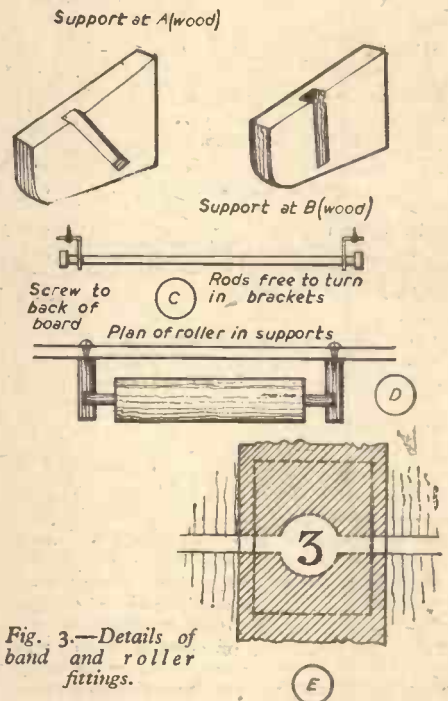

Fig. 3.—Details of band and roller fittings.
at the position shown in Fig. 3 the number 3 should be visible at the window.
These differ slightly. The slots in supports (A) slope slightly downwards towards the board so that, when the spindle of the roller is placed in them, it falls to bring the roller close to the board. Supports (B) have vertical slots long enough to allow the rollers to hang freely and so keep the band taut (see Fig. 3). The band is kept close to the window by metal rods above and below the opening, free to turn in holes drilled in L-shaped brackets. Each band requires two rods.